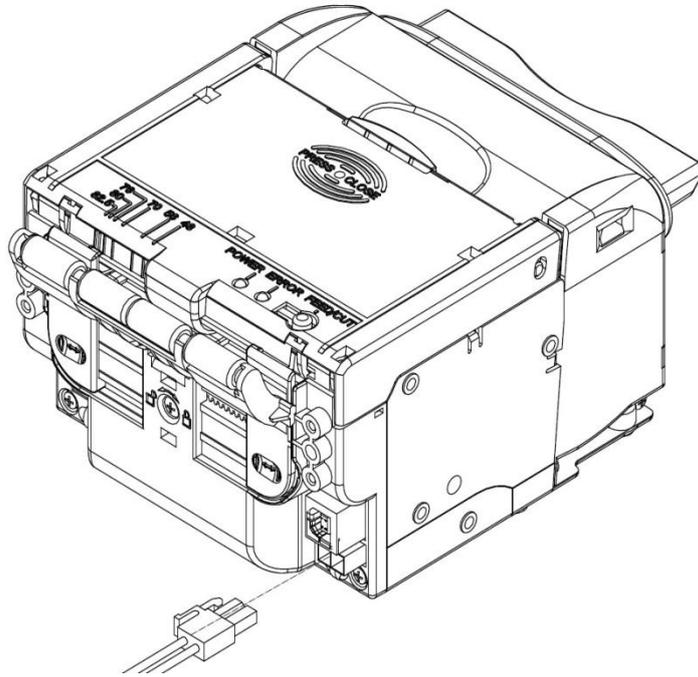

Fig. 4.4-1 Power adapter connection
- 2) Insert the 2P power cord plug into the power interface of printer as shown in the Fig.4.4-1;